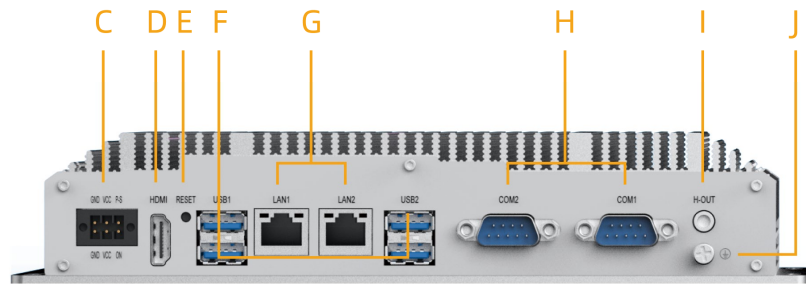

Figure 2-6-4
② The processor is Intel® Celeron® J6412 iBOX22XX Series Fanless Industrial Box PC interface definition is shown in Figure 2-6-3 & Figure2-6-4: